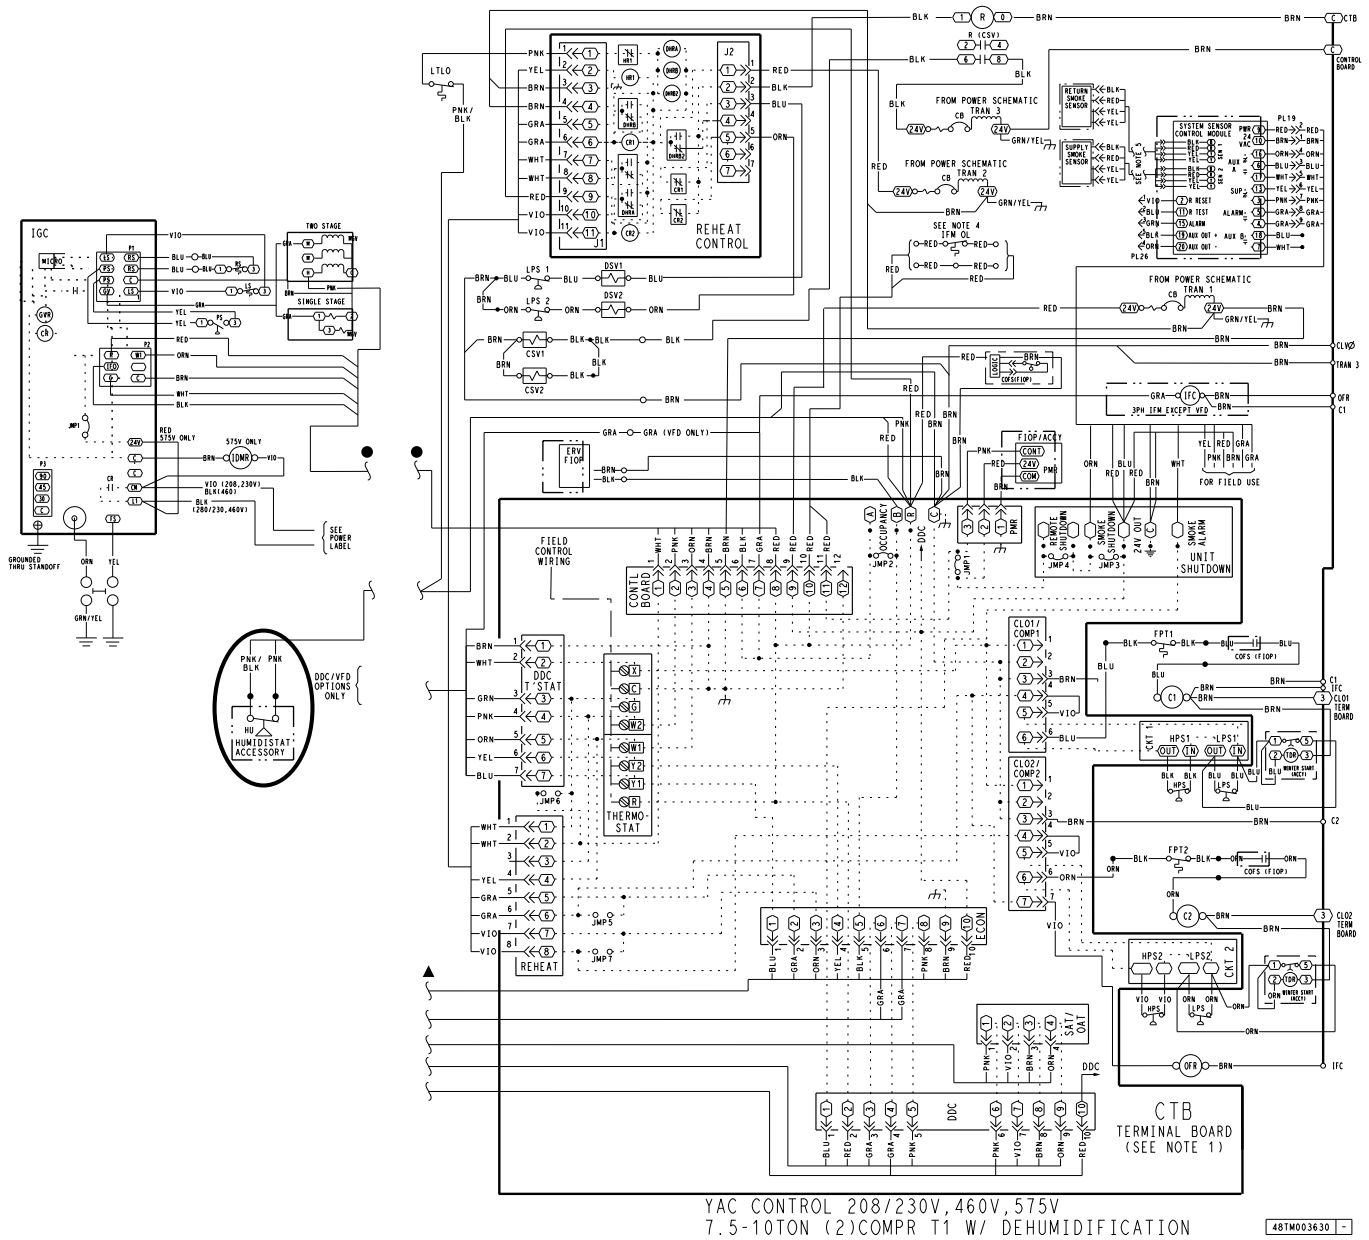

Fig. 69 — 48TC**07-14, Typical Humidi-MiZer® Adaptive Dehumidification System Humidistat Wiring
3. Use wire nuts to connect humidistat cable to two PINK leads in the low-voltage wiring as shown in Fig. 69.